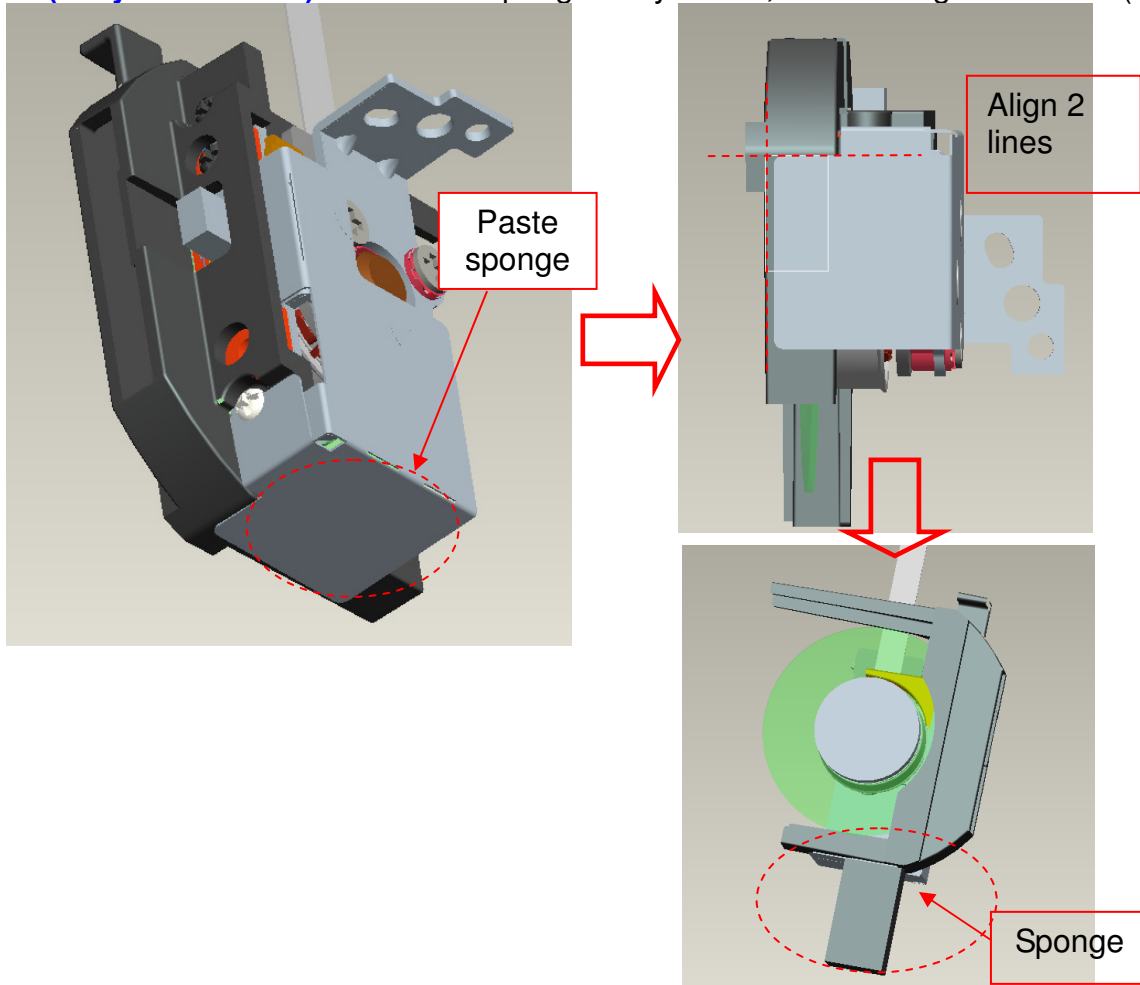

Fig. 6-1-1
6.2 **(Only for S5201B)** : Paste the sponge on Mylar CW, for touching lower case (Fig. 6-1-1)